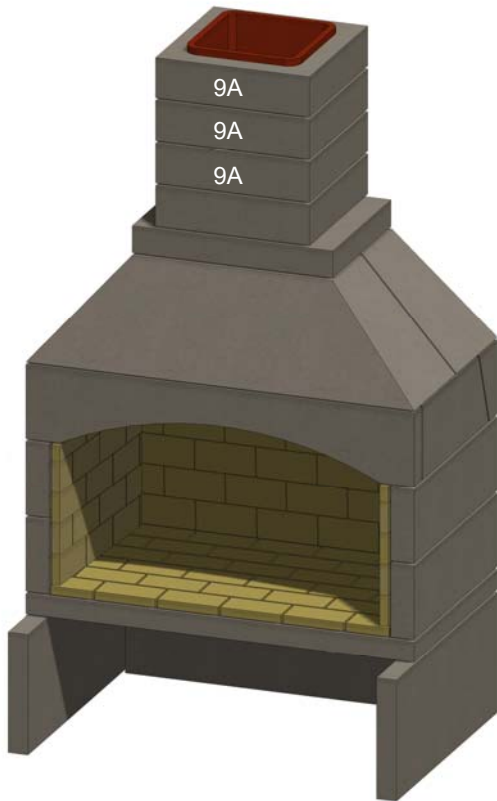

Figure 24. Chimney Complete
P. Install the remaining chimney sections (9A), fully bedding each piece in mortar, and filling in the gap between the clay tiles in each section. Parge the joints to create a smooth transition between each chimney section. Note that if a tile is chipped or slightly out of square, it may be used as long as it the joints are filled and smoothed with high temperature mortar. See Figure 24. **If additional chimney is required to penetrate a roof or structure, refer to Section 4.0 for more detailed instructions.**